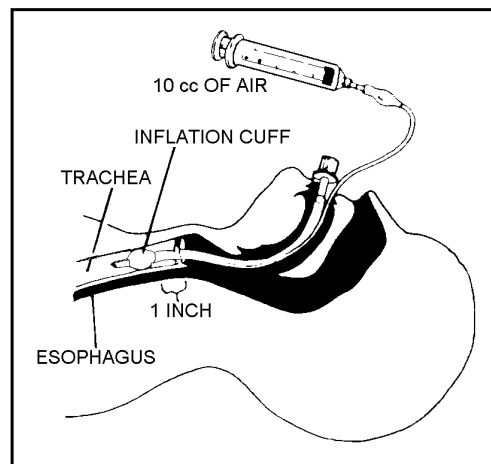

Figure 3-70
10. Inject the required amount of air to inflate the cuff (5 to 10 cc) by pressing the plunger of the syringe. (See Figure 3-70.)